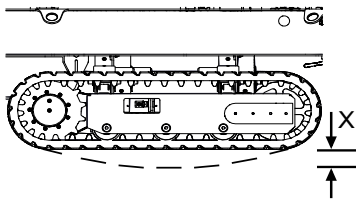

Fig. 234
7. Ensure that there is a slack (Fig.234/X) of 10 to 15 mm.